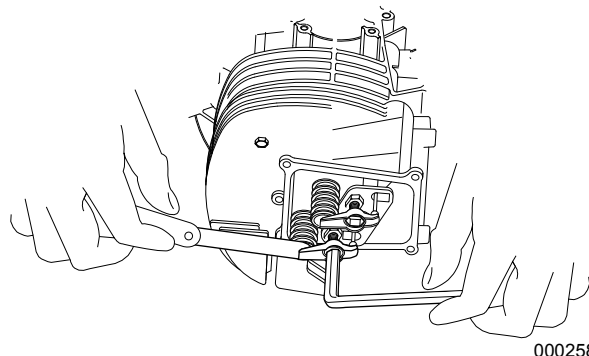

Figure 4-50. Adjusting Valve Clearance
1. See Figure 4-50. Loosen the rocker arm jam nut. Use a 10mm allen wrench to turn the pivot ball stud while checking the clearance between the rocker arm and valve stem with a feeler gauge.